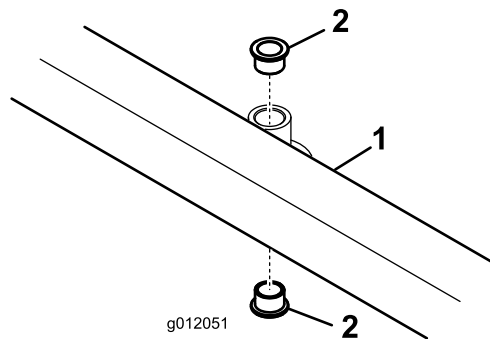

Figure 26
4. Insert pin punch into top or bottom of bumper and drive bushing out of tube (Figure 26). Also drive other bushing out of bumper. Clean inside of bumper to remove any dirt.